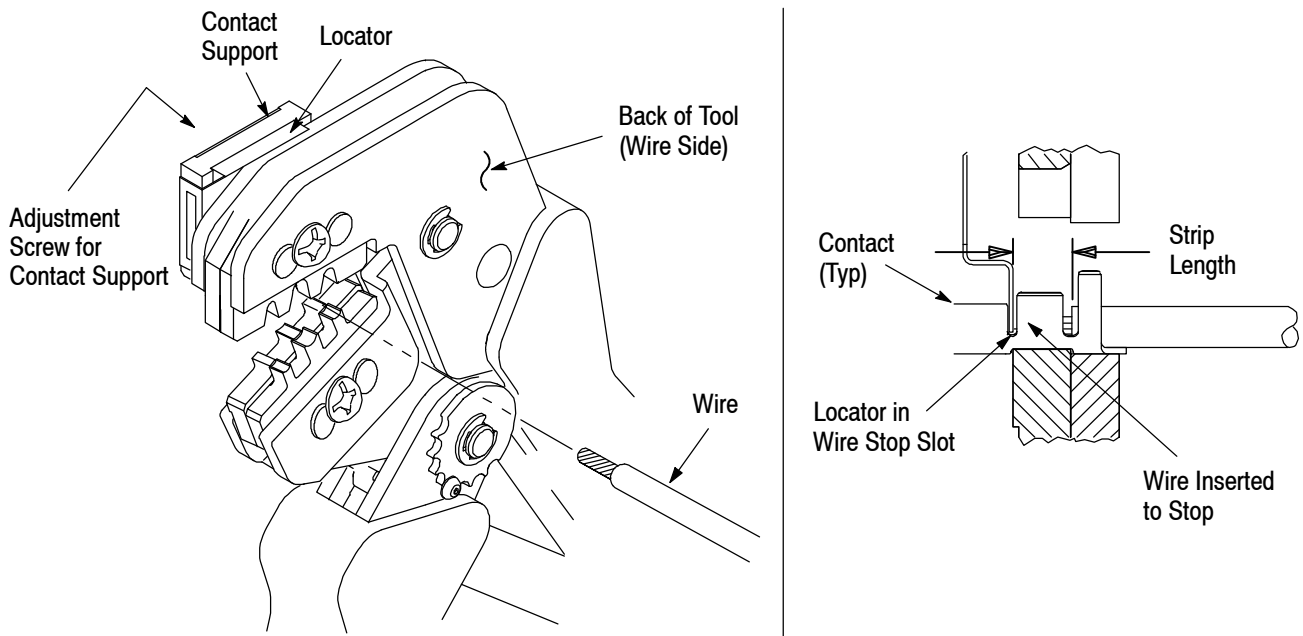

Figure 3
4. CONTACT SUPPORT ADJUSTMENT (Figure 3)
Refer to the table in Figure 1 and select wire of the specified size and insulation diameter. Strip the wire to the length indicated in Figure 1, taking care not to nick or cut wire strands. Select an applicable contact and identify the appropriate crimp section according to the wire size markings on the tool. Refer to Figure 3 and proceed as follows:
3. Position the contact so that the mating end of the contact is on the locator side of the tool, and so that the open “U” of the wire and insulation barrels must face the top of the tool. Place the contact up into the nest so that the movable locator drops into the slot in the contact. Refer to Figure 3. Butt the front end of the wire barrel against the movable locator.
5. Insert stripped wire into contact insulation and wire barrels until it is butted against the wire stop, as shown in Figure 3.
NOTE The crimped contact may stick in the crimping area, but the contact can be easily removed by pushing downward on the top of the locator (see Figure 3)